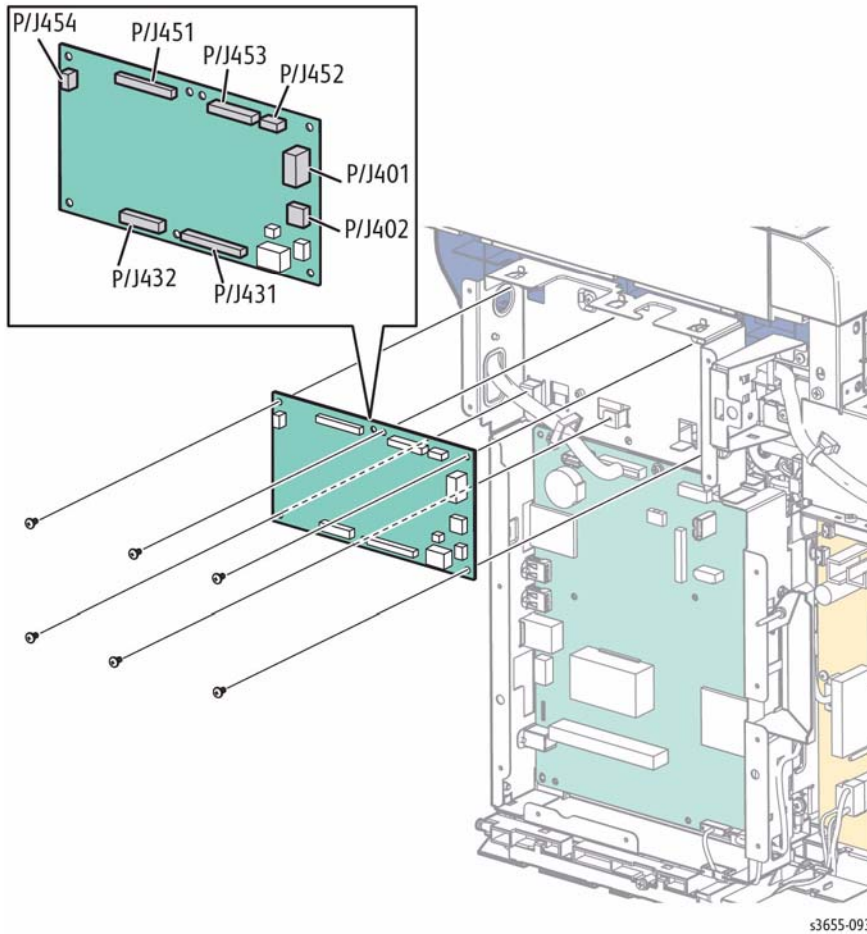

Figure 1 Remove the IIT Control Board
9. Refer to Figure 1 to locate and disconnect all IIT Control Board connections, and remove 6 screws (silver, M3, 6mm) to remove the IIT Control Board.